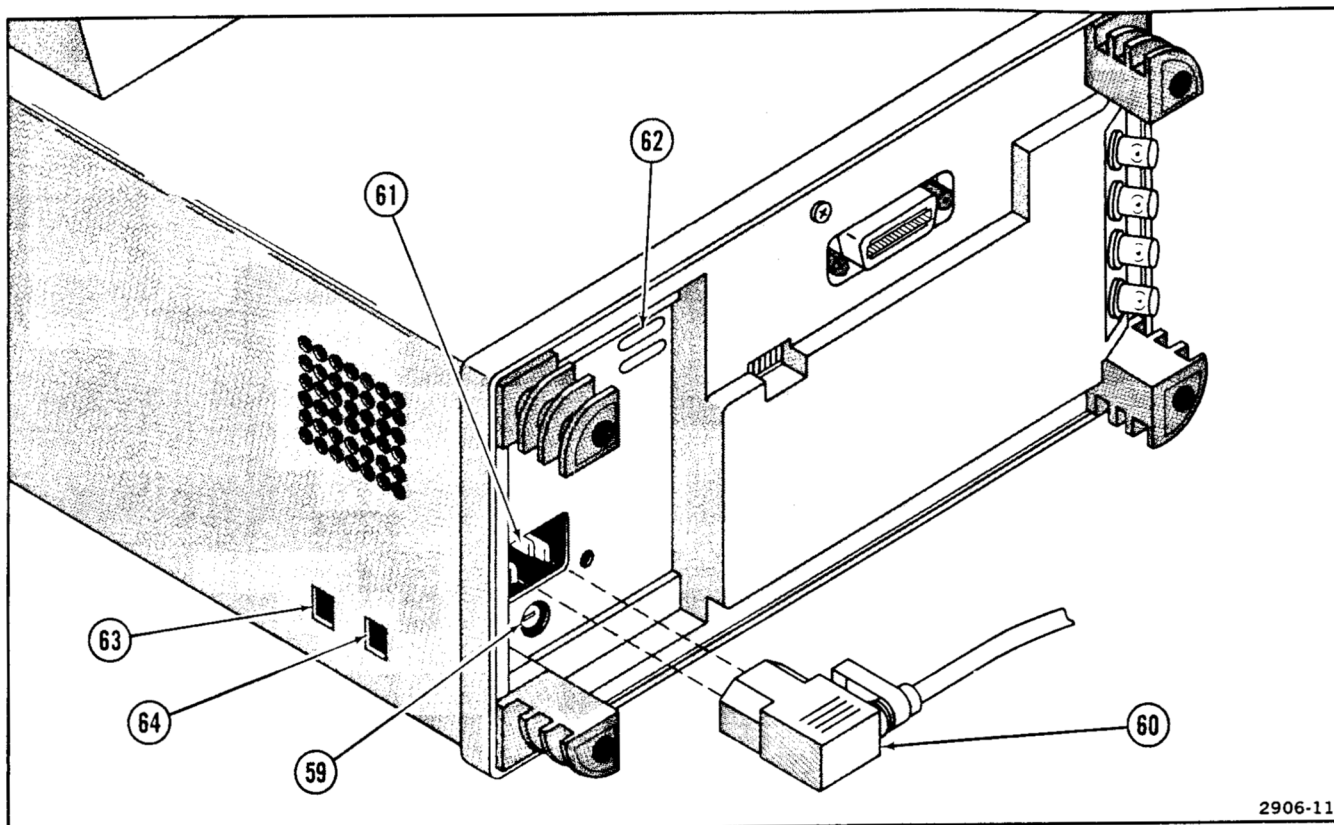

Figure 2-11. Rear panel and right side panel power controls, connectors, and indicators.
Refer to Figure 2-11 for location of items 59 through 64.